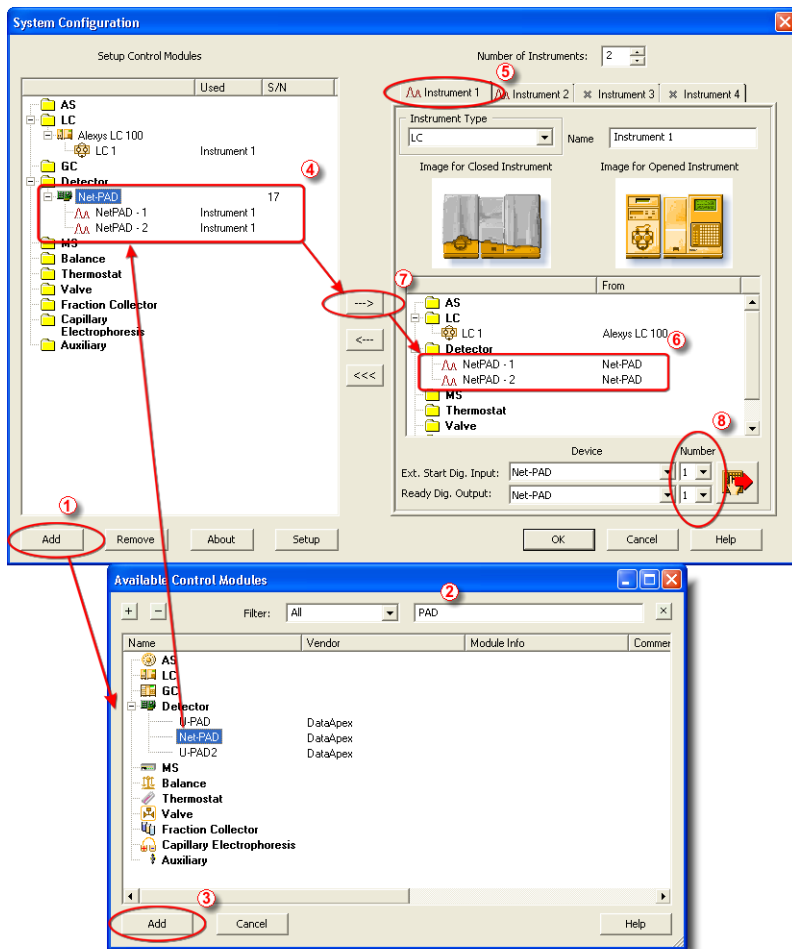

Fig 8: System Configuration
- Press the **Add** button ① (See **Fig 8** on pg 12.) to invoke the **Available**
- You can specify the searching filter ② to simplify the finding of the driver.
- Select the **Net-PAD** and press the **Add** ③ button.